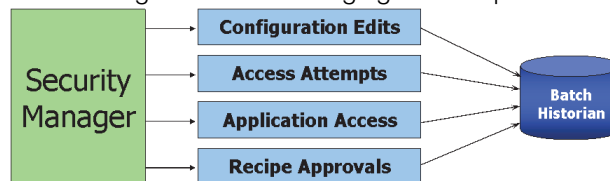

Figure 10. Batch Security History
- ▶ Security events occur whenever the Batch Manager captures and logs security events to the Batch Historian (refer to Figure 10). Configuration edits include security database changes such as deleting a user and changing a user's password.